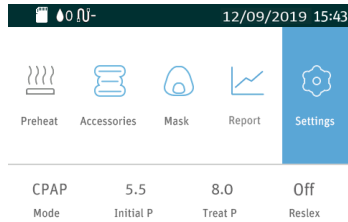
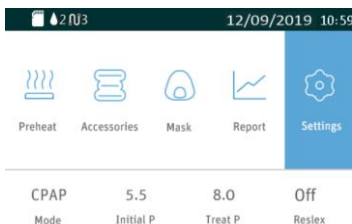
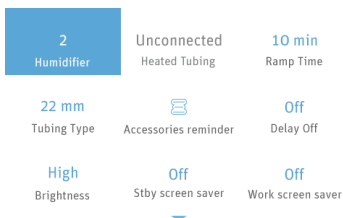

Fig. 15-1
Fig. 15-3
Fig. 15-4
(1) Turn on the device. The device screen displays the Main Screen shown in Fig. 15-1.
(1) Turn on the device. The device screen displays the Main Screen shown in Fig. 15-1. Turn **the Knob**  until the cursor is on the icon , and the screen displays the Initial Setup Interface shown in Fig. 15-3. Press **the Knob** , and the first option on the Initial Setup Interface turns blue, as shown in Fig. 15-4.